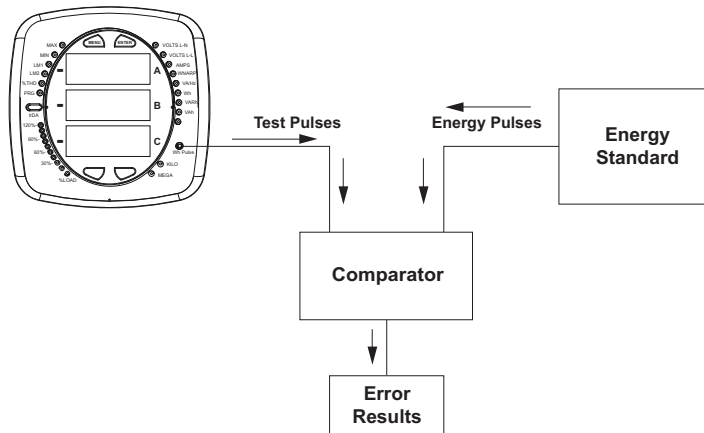

Figure 7.5: Using the Watt-hour Test Pulse
- Refer to Figure 7.5 for an example of how this process works.